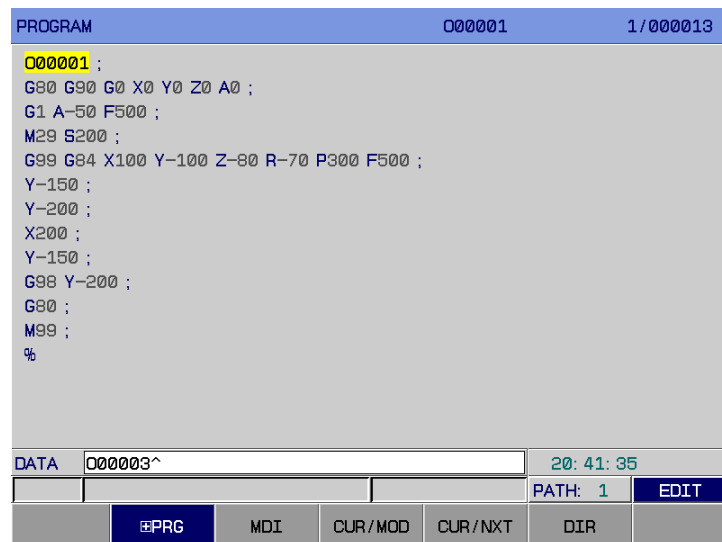

Fig. 10-1-1-2-2
4. Establish a new program name by , refer to the following Fig. 10-1-1-2-3: